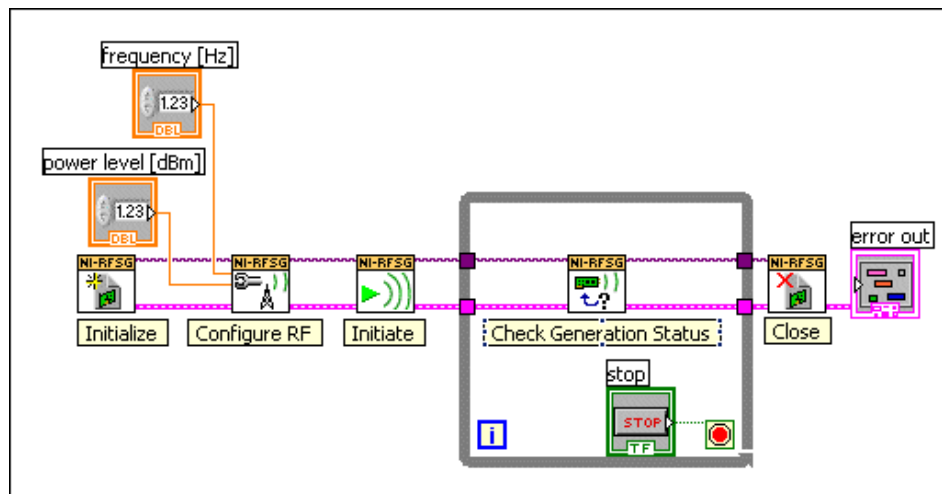

Figure 9. Basic Sine Wave Generation VI Block Diagram
7. Verify that your VI block diagram now looks like the example in Figure 9 below.